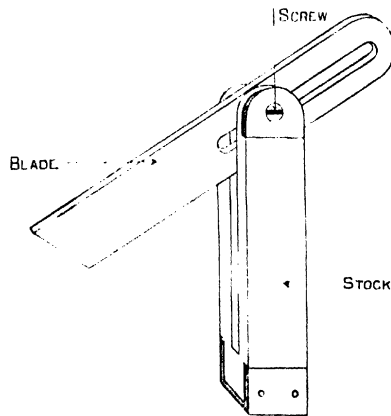

Fig. 47.
**The Bevel.**---This tool (Fig. 47), like the try-square, consists of a stock made of hard wood, and a steel blade with parallel edges. But, unlike the blade of the try-square, the blade of the bevel can be adjusted